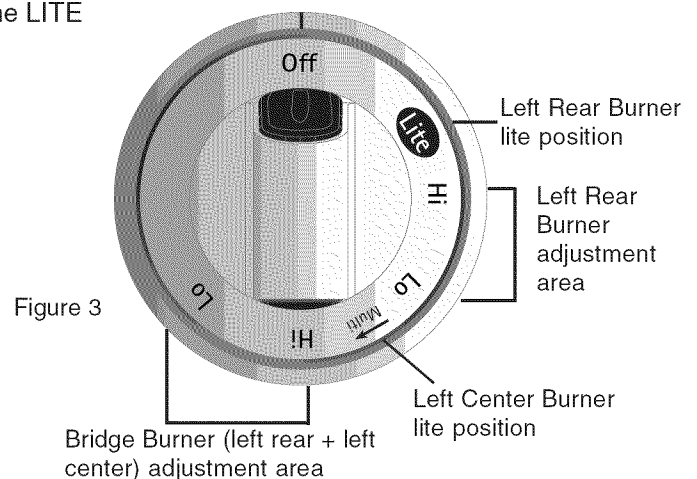

Figure 3
2. Remove all packing tape from cooktop and burner caps. Remove Bridge Burner Caps and Bridge Burner Heads (See Figure 3).
4. Replace Bridge Burner Caps. These include one Bridge Burner Center Cap (rectangular shaped) and the two Bridge Burner End Caps (The Bridge Burner End Caps will fit either the front or rear Bridge Burner Head locations). Make sure that the tabs located under the Bridge Burner Caps fall into the slots located in the Bridge Burner Head (See arrows in Figure 3) and that all the Bridge Burner Caps lie flat and evenly on the Bridge Burner Head.
5. Visually check that both the left rear and left center Burners are lit. Adjust the flame size by turning the control knob between the **second HI and LO settings** (See Figure 3).
4. Visually check that the left-rear burner has lit. Adjust the flame size by turning the control knob between the **first HI and LO settings** (See Figure 3). **DO NOT** cook with the surface control knob in the LITE position (The electronic ignitor will continue to spark if the knob is left in the LITE position).